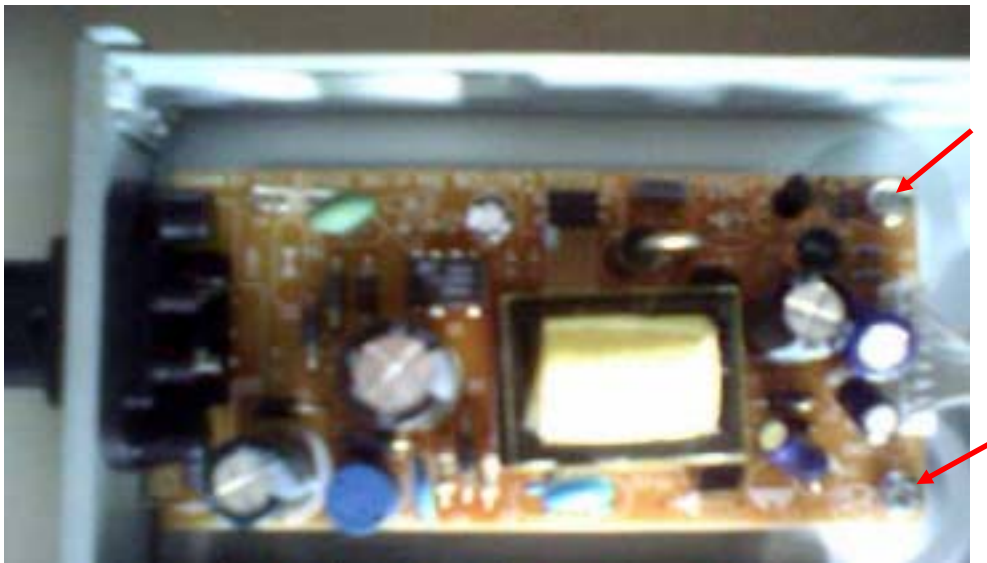

Figure 9
**Step7:** Remove the 2 screws on Power Board to dismantle the Power Board. (Figure 9)